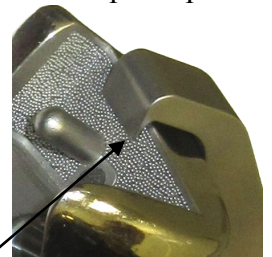

Figure 2
- It is extremely important to ensure that the jaw tips of the Extractor are under the implant prior to extraction. *See Figure 2.* If the jaw tips are compressed into the sides of the implant, instead of under the implant, damage to the jaws may occur.